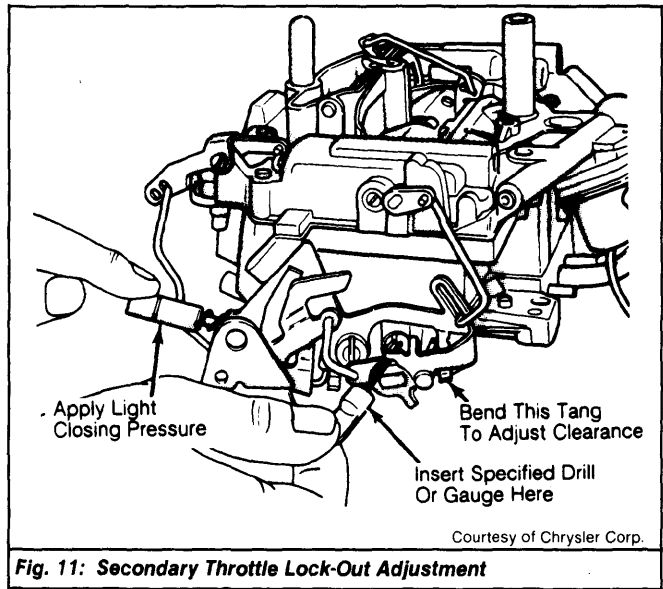

Fig. 11: Secondary Throttle Lock-Out Adjustment
1) Move fast idle control lever to wide open choke position. Measure specified clearance between lock-out lever and stop. Clearance can be checked using a specified drill or pin gauge. See Fig. 11.